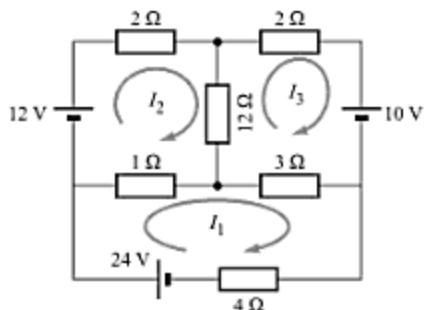

Fig. 3.73
14. Determine the current through the $1\text{-}\Omega$ resistor in the circuit shown in Fig. 3.73, by using mesh analysis. [Ans. 1.39 A]